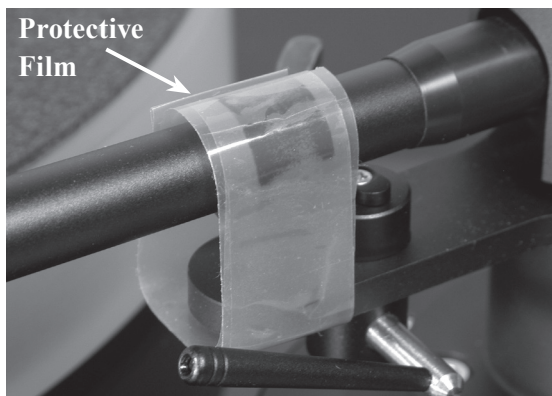

Figure 19
13. Remove the protective film material from the Tone Arm Rest Position. Refer to figures 19 and 20.